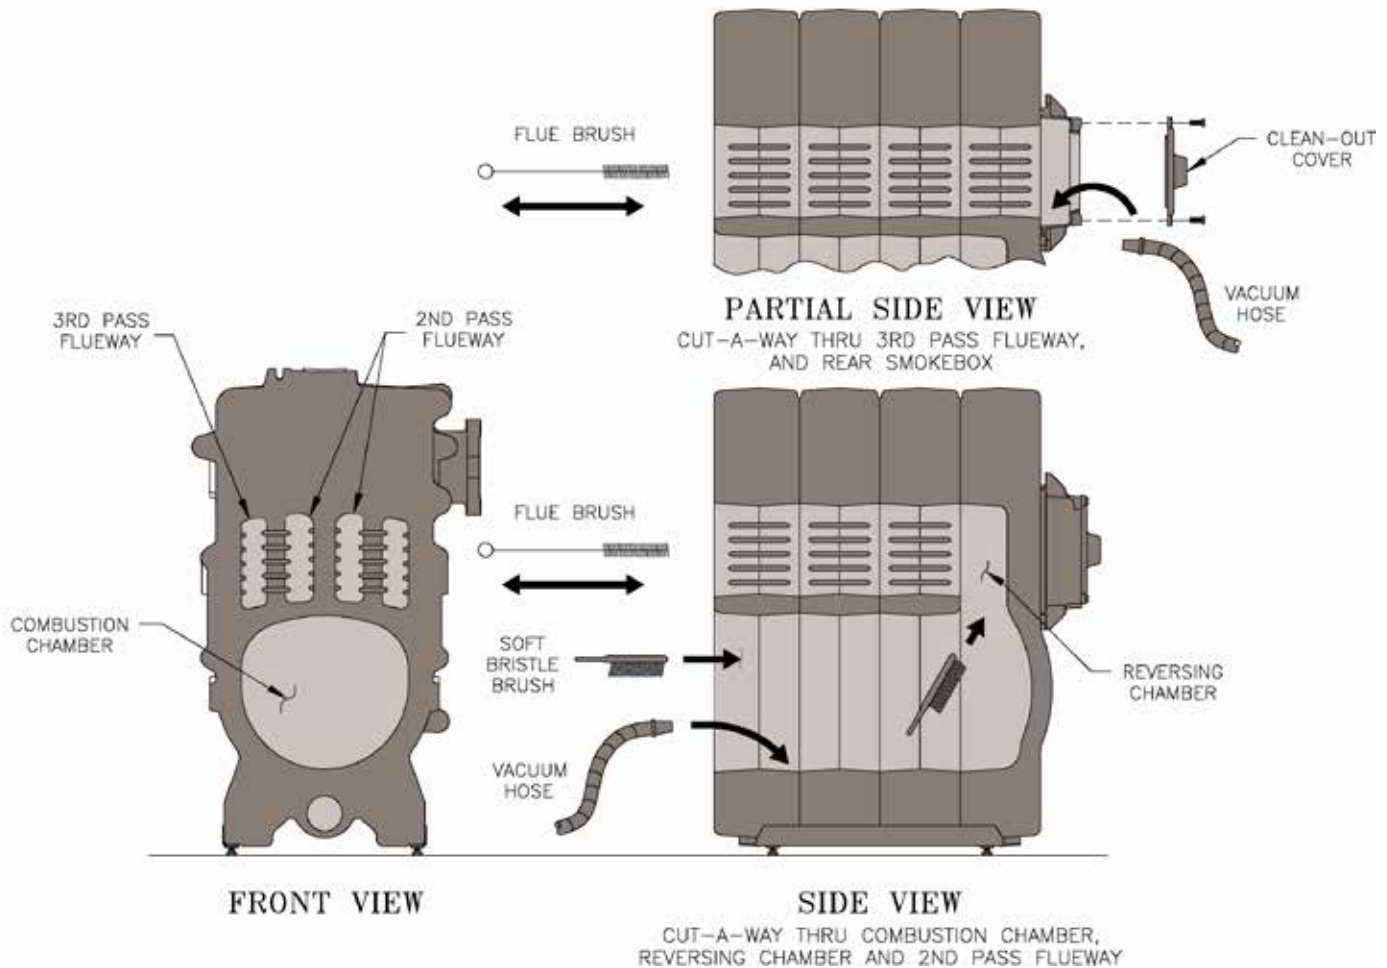

Figure 28: Cleaning Boiler Flueways and Combustion Chamber Surfaces
A. CLEAN THE FLUEWAYS (See Figure 28).
1. For access to the combustion chamber remove the two (2) 3/8" - 16 cap screws. If boiler is equipped with flexible fuel line(s), swing door open.